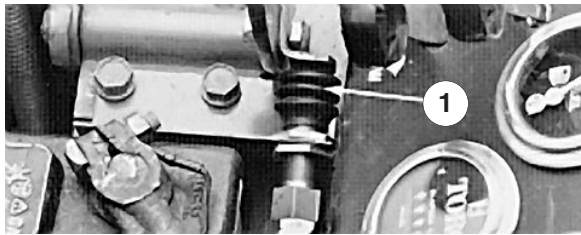

Figure 38
3. Remove the boot from the button end of the power take-off switch (Fig. 38). Retain the boot for re-installation. Separate the switch wire connectors.